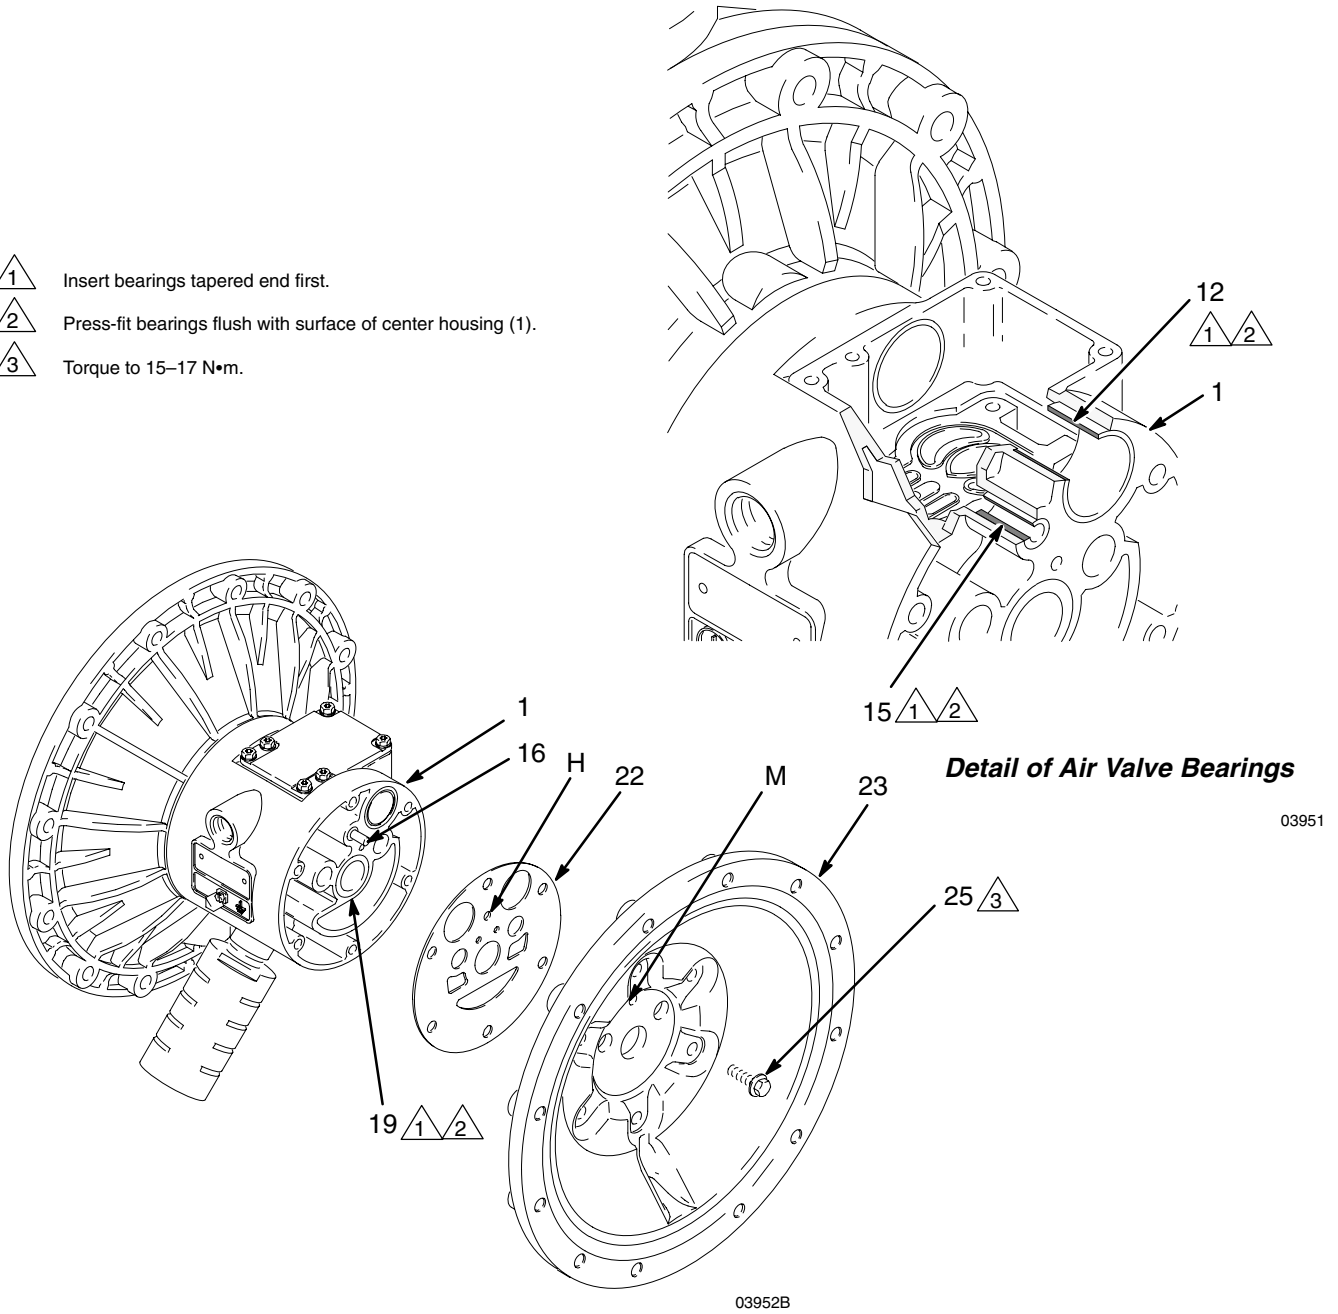

Fig. 14
**NOTE:** If you are removing only the diaphragm shaft bearing (19), skip step 4.
5. Using a 10 mm socket wrench, remove the screws (25) holding the air covers (23) to the center housing (1). See Fig. 14.
6. Remove the air cover gaskets (22). Always replace the gaskets with new ones.
7. Use a bearing puller to remove the diaphragm shaft bearings (19), air valve bearings (12) or pilot pin bearings (15). Do not remove undamaged bearings.
1. If removed, install the shaft u-cup packings (402\*) so the lips face **out** of the housing (1).
2. The bearings (19, 12, and 15) are tapered and can only be installed one way. Insert the bearings into the center housing (1), **tapered end first**. Using a press or a block and rubber mallet, press-fit the bearing so it is flush with the surface of the center housing.
4. Align the new air cover gasket (22) so the pilot pin (16) protruding from the center housing (1) fits through the proper hole (H) in the gasket.
5. Align the air cover (23) so the pilot pin (16) fits in the middle hole (M) of the three small holes near the center of the cover. Install the screws (25), handtight. See Fig. 14. Using a 10 mm socket wrench, torque the screws oppositely and evenly to 15–17 N•m.